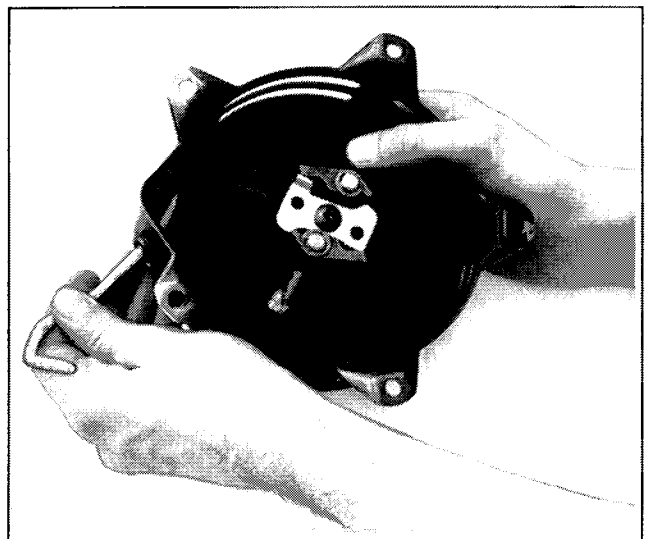

Figure 7-6. Releasing Spring Tension.
4. Hold the pulley firmly with thumb and untie the slip knot. Allow the pulley to rotate slowly as the spring tension is released. Refer to Figure 7-6.
4. Hold the pulley firmly with thumb and untie the slip knot. Allow pulley to rotate **slowly** as the spring tension is released. Refer to Figure 7-6.